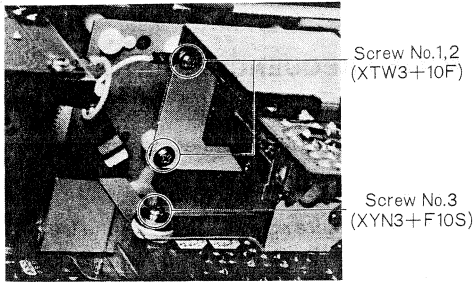

Fig. 12
4. Remove the three (3) screws (nos. 1~3) for the PC board, as shown in fig. 12.